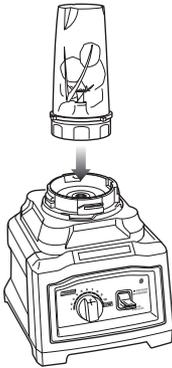
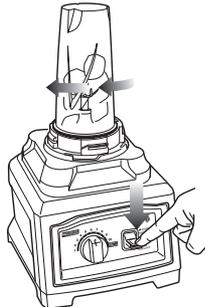

Fig. 10
Fig. 11
- 4 Turn the single serve cup upside down and place it onto the motor base, aligning the tabs on the cup with the motor base. (Fig. 10) Turn clockwise until the cup locks in place, the unit is ready for use. (Fig. 11)
- 5 Turn the Variable Speed Dial to the Single Serve icon. The single serve cup only operates at one speed regardless of which number is chosen on the dial. Press down on the "Start/Stop/Pulse" toggle in short intervals until you have reached your desired consistency. (Fig. 11)